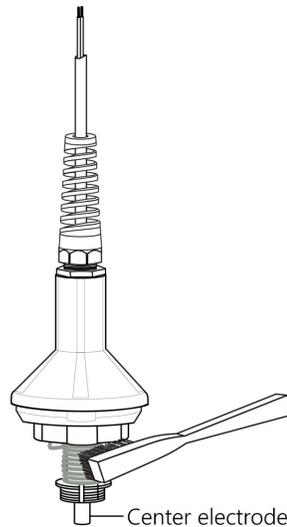

Figure 8-2. Using toothbrush to clean sensor
5. To clean, immerse the top part of the sensor in distilled white vinegar (3% acetic acid) for about 30 minutes. If vinegar is unavailable, use a soft toothbrush, automatic dishwasher detergent, and clean water to clean the cathode, anode, and plastic without touching the centre electrode; see Figure 8-2 (p. 11). Rinse all components thoroughly with clean water after cleaning.